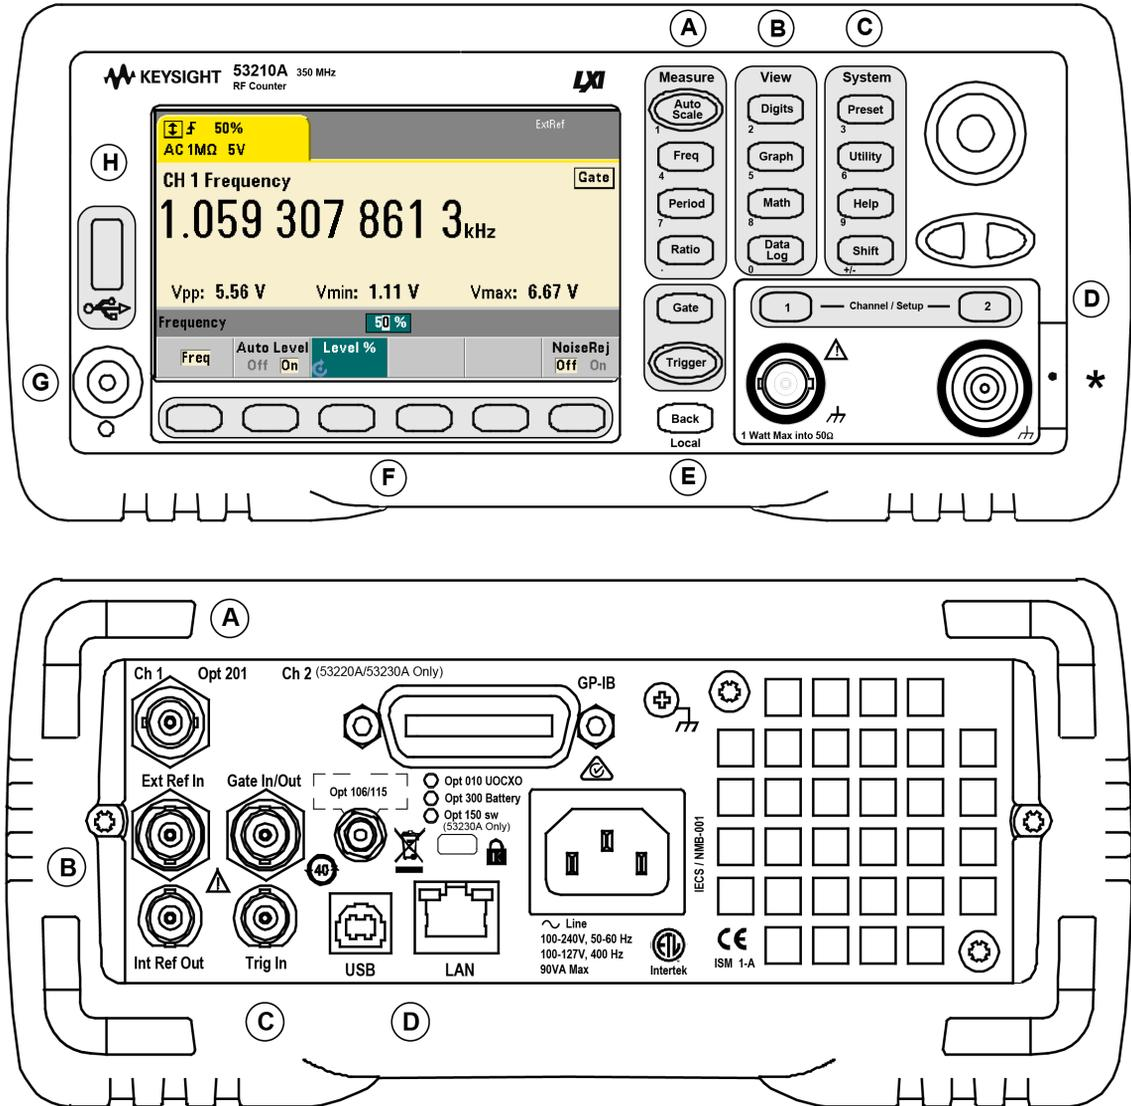

Figure 1-1 The 53210A Universal Frequency Counter/Timer.
Figure 1-1 shows the front and rear panels of the Keysight 53210A 350 MHz RF Counter.
D. Channel Keys - select the input channel and displays the soft key menu used to configure the input signal path. Note that **Figure 1-1** includes Channel 3 Option 106 / 115. Signal path configuration is covered in **Chapter 4**.
The 53210A rear panel shown in Figure 1-1 includes product Option 201 (parallel rear panel input) and GPIB interface. The rear panel terminals are briefly described below.